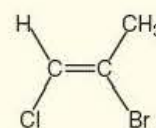

Figure 6.21 ▲
Now look at the isomer of 2-bromo-1-chloroprop-1-ene in Figure 6.21.
- 5 Look again at 2-bromo-1-chloroprop-1-ene in Figure 6.21.